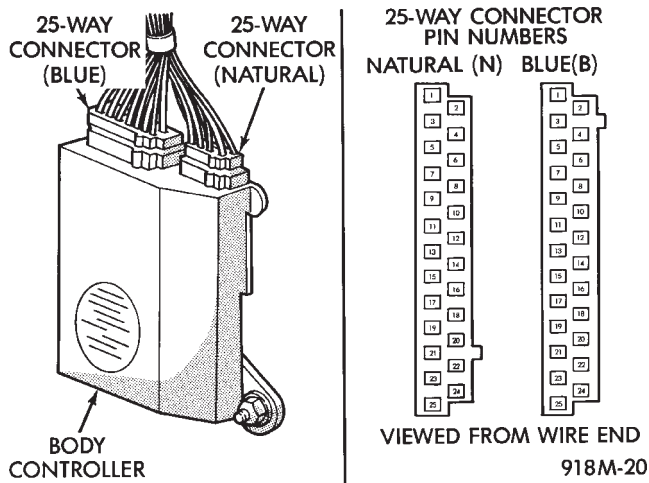

Fig. 12 Combination Controller 25-Way Connectors
(2) Reconnect wiring to motor. Disconnect blue connector from the body controller. Turn ignition OFF, using an ohmmeter, measure the continuity between terminal 22 and 24 of the body controller (Fig. 12).
(4) Ignition OFF, disconnect body controller. Check for continuity between pin 20 and 24 of the body controller blue connector (Fig. 12). If no continuity, replace body controller.
(5) If continuity OK, disconnect the multi-function switch connector. The switch in the OFF position, check continuity between terminal 6 and 7 of the switch. If no continuity, replace multi-function switch. If continuity OK, an open in the wiring exist, repair as necessary.